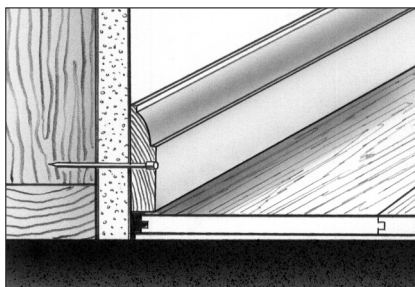

Fig. 23
2. Always predrill transitions or mouldings prior to nailing. To allow the floating floor to move freely, **do not** fasten the trim to the laminate flooring (Fig. 23).